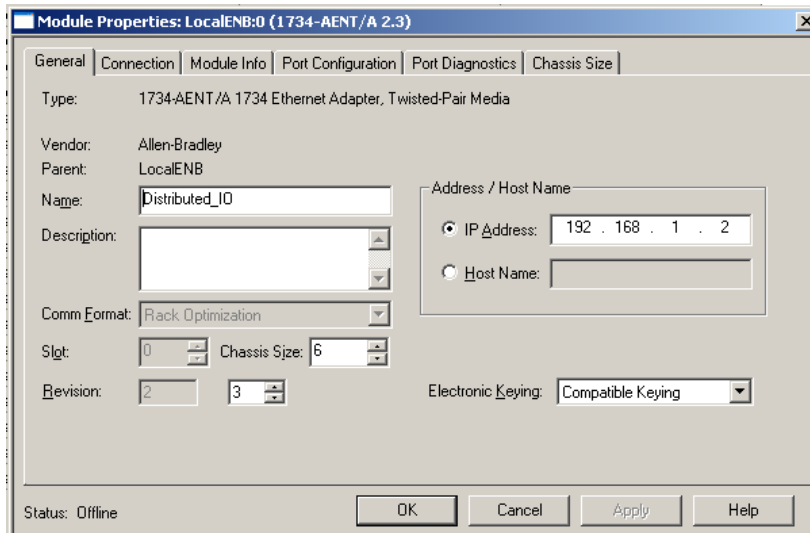

Fig. 5: Module properties of 1734-AENT/A Ethernet Adapter
- 3) The **Module Properties** dialog window is displayed (see Fig. 5).